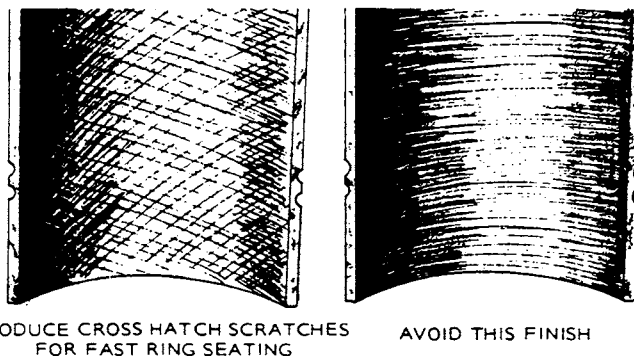

FIGURE 19. CROSS HATCHING
- Use a slow speed drill to drive the deglazing tool. Move deglazing tool up and down in cylinder (10 to 12 complete strokes) rapidly enough to obtain a crosshatch pattern (Figure 19).